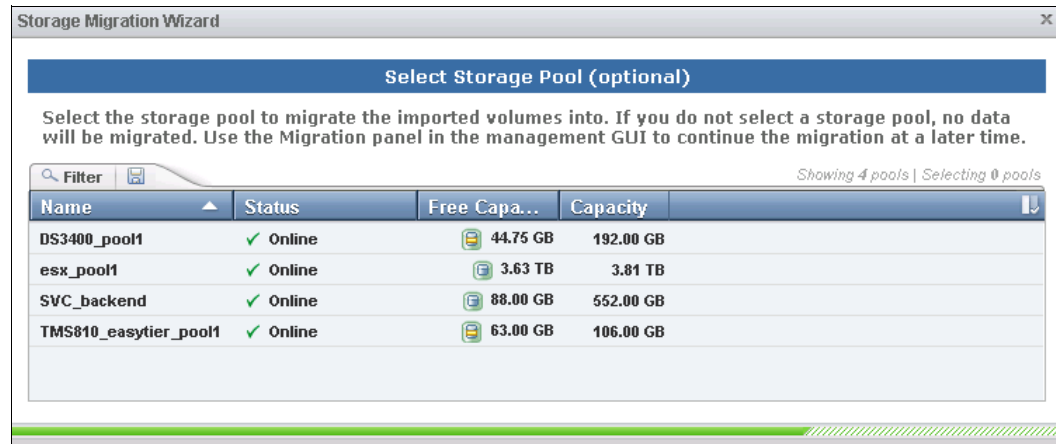

Figure 6-14 Select a storage pool
7. Select the destination storage pool for data migration and click **Next** (Figure 6-14).